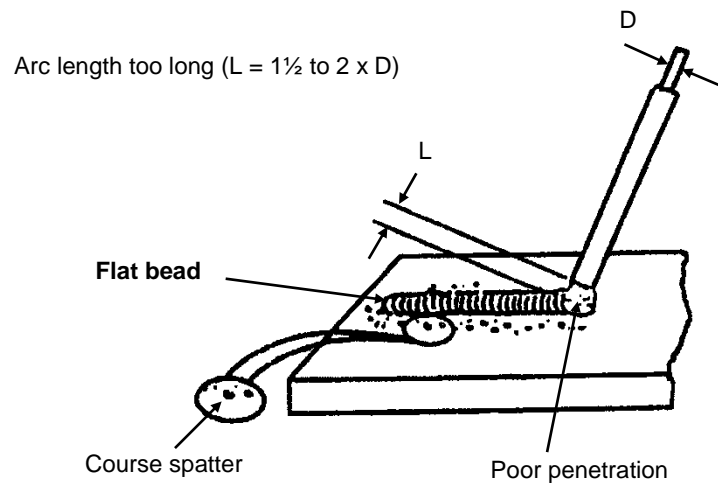

FIG 28.
- K. If the arc is too long, it will be deposited noisily and erratically. Large globules of metal will be ejected and excessive spatter will result. (Fig 28)